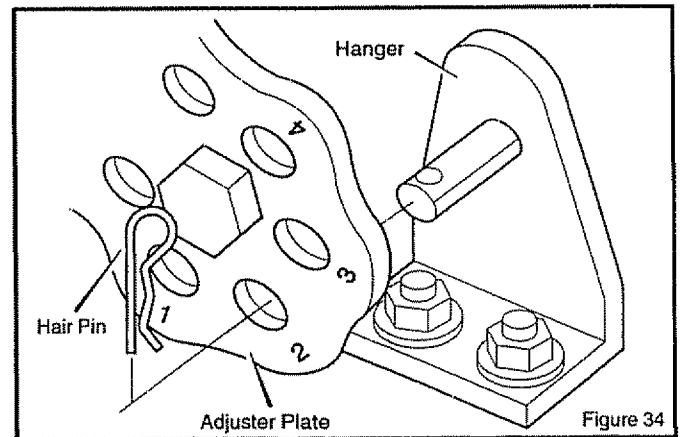

Figure 34
1. Disconnect one or both **adjuster plates** from the **hangers** (Figure 34).